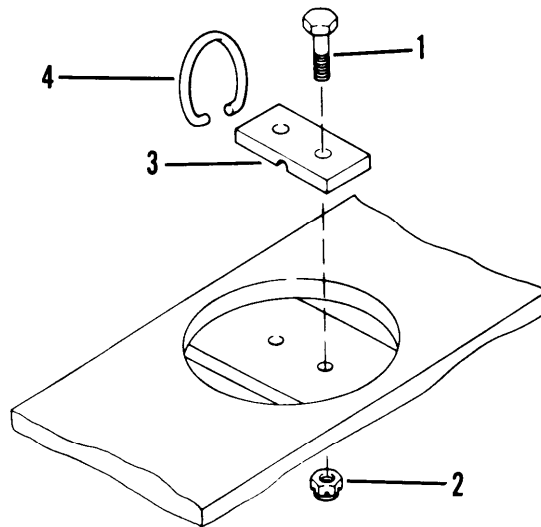

Figure 4-50. Tiedown Ring
- (1) Remove two bolts (1, fig. 4-50) and locknuts (2) from tiedown ring bracket (3).
- (2) Remove bracket (3) and tiedown ring (4).
- (3) Repeat steps 1 and 2 for other tiedown rings as needed.
- (1) Install tiedown ring (4, fig. 4-50) and bracket (3).
- (2) Secure bracket (3) with two bolts (1) and locknuts (2).